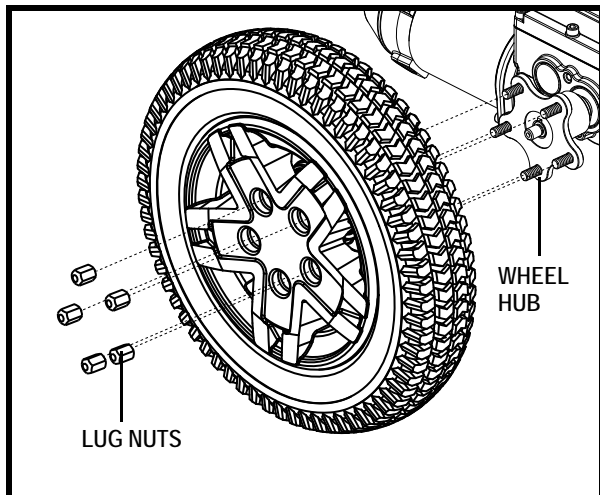

Figure 22. Quantum Q4 Drive Wheel
4. Remove the (5) lug nuts from the wheel hub. **See figure 22.**